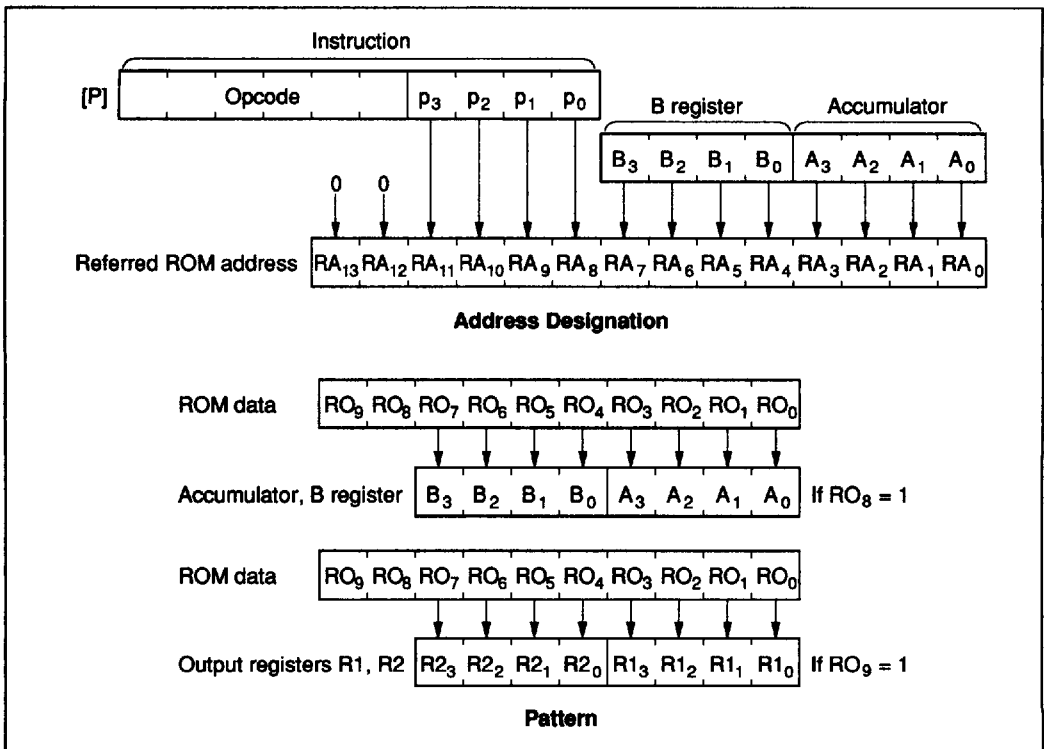

Figure 24 P Instruction
**P Instruction:** ROM data addressed by table data addressing can be referred to by the P instruction (figure 24). When bit 8 in the referenced ROM data is 1, 8 bits of ROM data are written into the accumulator and B register. When bit 9 is 1, 8 bits of ROM data are written into the R1 and R2 port output registers. When both bits 8 and 9 are 1, ROM data are written into the accumulator and B register, and also to the R1 and R2 port output registers at the same time.